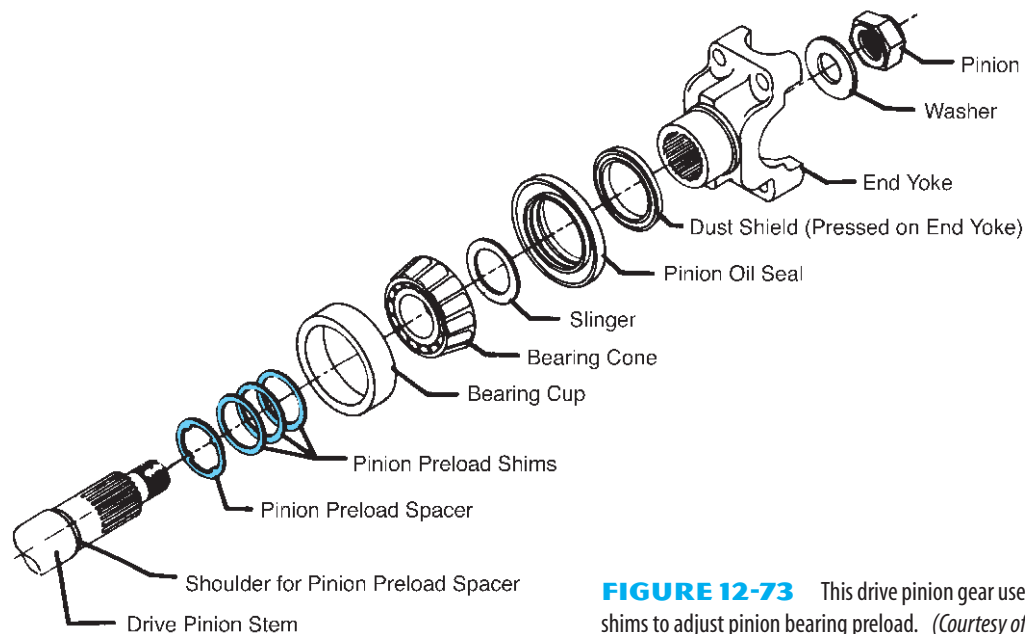

FIGURE 12-73 This drive pinion gear uses a solid spacer and a set of shims to adjust pinion bearing preload. (Courtesy of Dana Corporation)
1. Install the solid spacer onto the pinion shaft with a starting shim that should be thicker than needed (Figure 12-73).